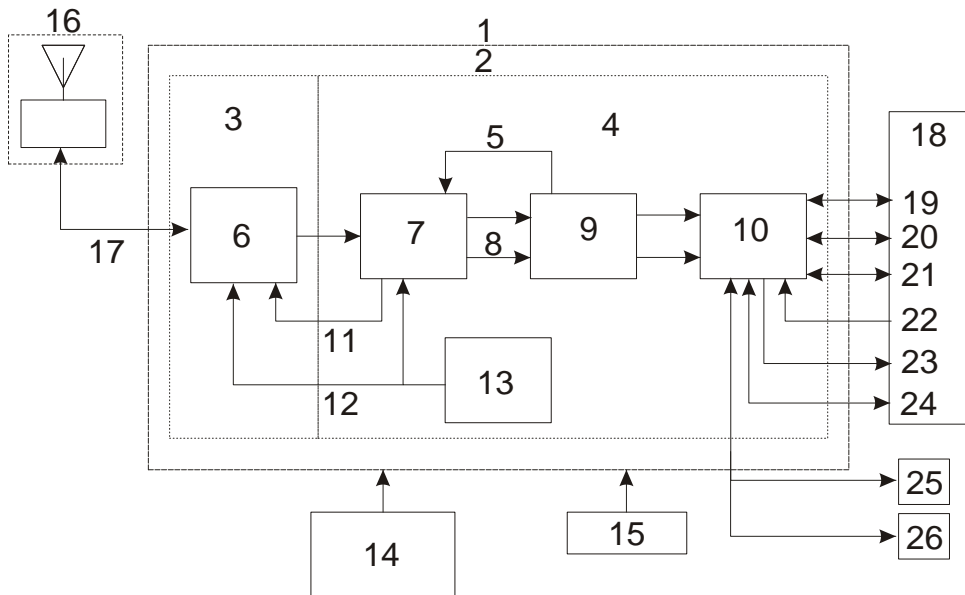

Figure 11: GNSS Receiver System Functional Diagram
The overall system is represented in *Figure 11*. A brief description of the Radio Frequency (RF) and Digital Electronics sections follow the figure. The components listed earlier are also described. Details of installation and set up are provided in *Chapter 3, Installation and Setup on Page 36*.